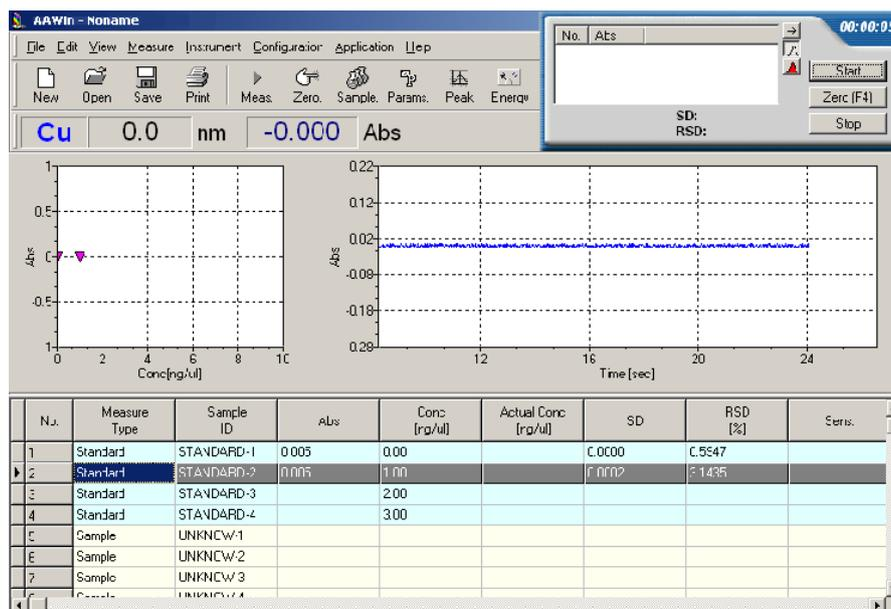

Fig. 4-10 Measuring window
After you finish flame igniting and make proper adjustment to the burner parameters, you may now start to make a measurement. To do so, first select [Measurement]-[Start] from the menu or click the button “” from the toolbar or just press F5 key to open the measurement window, then there will be analog signal coming up in the real time graph. Refer to Figure 4-10.
Now you can click the [Start] button for sampling. If you have chosen a Manual mode to make measurement in the measurement parameter-setting window, you will have to push the [Start] button again for another measurement after you finish every single sampling operation. In the case of Automatic mode, however, system will automatically take the sampling process according to your setting of the “Time interval”. After finishing the samplings, system will display the results in the measurement window, standard deviation (SD) and relative standard deviation (RSD) values will also be calculated and displayed in the window after the third repetitive sampling. After you complete all the samplings set by the duplicate number in the measurement parameter dialog box, system will calculate the mean value of the measurement results and display it in the proper cell (unit element) of the measurement table. See also Figure 4-10.
In the case of calibration curve preparation, system will draw up each point of the standard samples on the graph of the calibration curve after sampling, and display the final calibration curve together with the regression calculation results when all the standards you have set in the measurement table are finished. See Fig. 4-10.